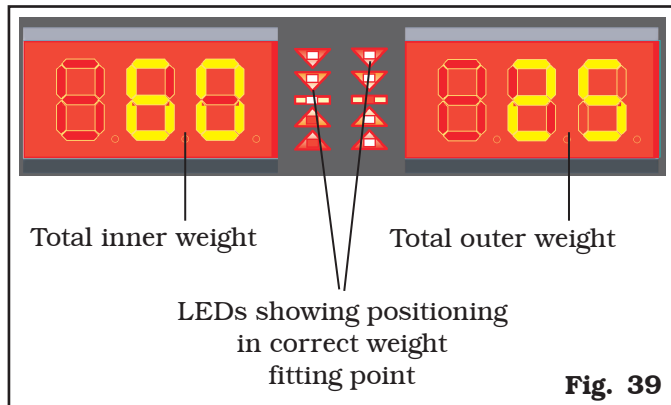

Fig. 39
Display screens D1-D2 show the weight required to correct the unbalance. The nearby LEDs show the direction wheel has to be moved in to fit weights (see Fig. 39).
- are shown (see **Fig. 39**), key  is pressed, the program displays the list of auxiliary programs (see Par. 14.4). At this point, if necessary, set the new di-